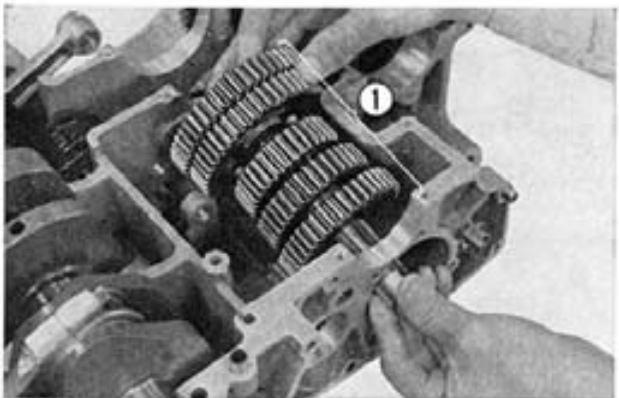

Fig. 5-7 ① Countershaft gear assembly
8. Take out the countershaft gear assembly from the lower crankcase. (Fig. 5-7)